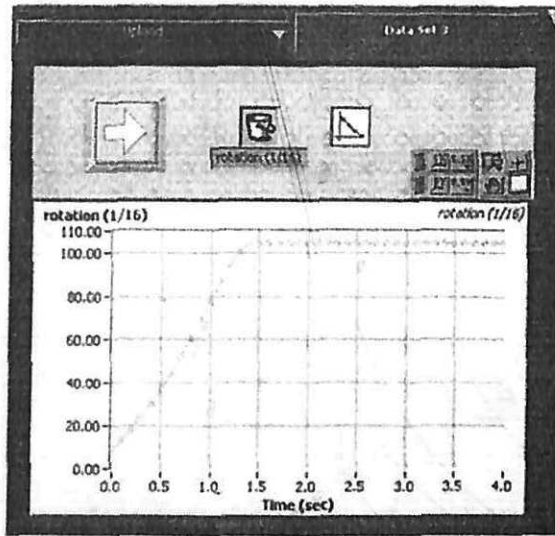

Figure 4.4.2: RCX rotation sensor data.
9. See Figure 4.4.2 for the sample graph from the rotation sensor data. [24] [22]
Calculate the experimental value of linear acceleration from the angle sensor data. Figure 4.4.2 shows experimental data from the RCX rotation sensor. Note: For the RCX rotation sensor the data is represented in units of (1/16) of a revolution. For the NXT encoder, the data is represented in degrees.